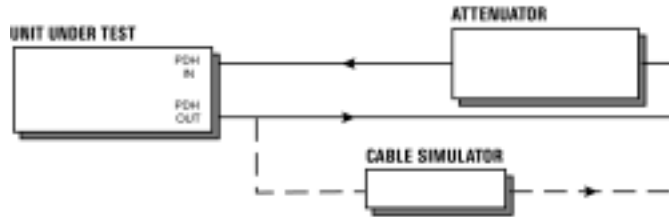

Figure 3-1 Receiver Monitor Input Test Setup
- 2 Connect the equipment as shown in Figure 3-1.